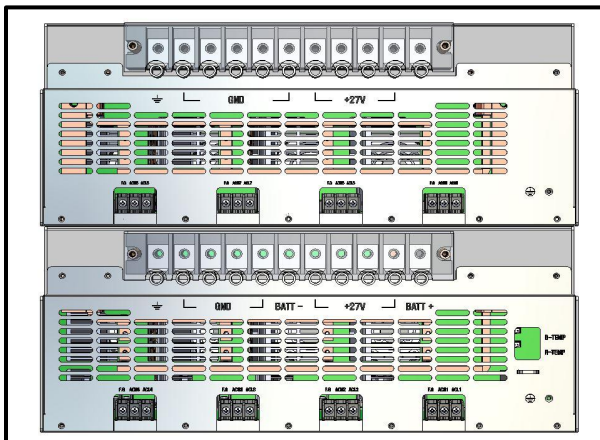
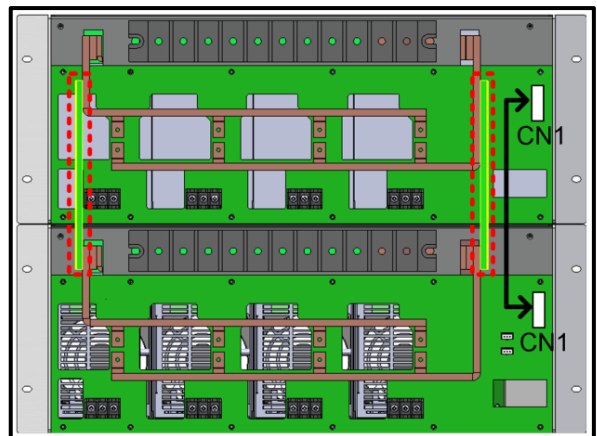

Figure 4e. Rear Covers
Figure 4f. Shelf Locations for Bus Bars and Cable
See Figures 4e and Figure 4f below
- 6) Plug in the communication cable into connectors located into the upper Expansion Shelf connector and the lower Main Shelf connector. The Shelf connector locations are shown in **Figure 4f**.